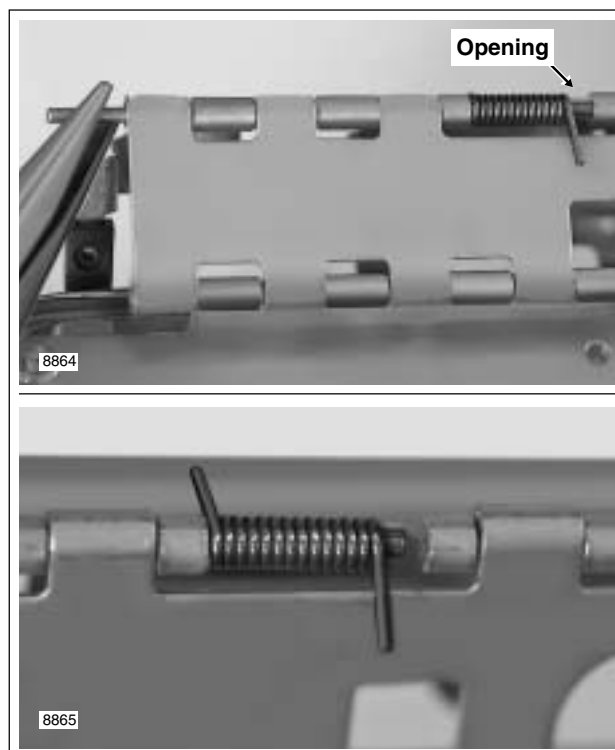

Figure 2-135. Lid Up Side Down With Latch on Far Side
- Using a needle nose pliers, grasp pin through opening just outboard of the spring and push toward the crimped link side. Work pin in this manner until end can be seen exiting crimped link. See upper frame of Figure 2-135. If necessary, pry crimped link outward a little more to achieve the desired result.
- Grasping end with needle nose pliers, slowly pull pin from links until spring can be slid off opposite end. Only pull pin as far as necessary to remove spring. See lower frame of Figure 2-135.
- Slide **new** spring onto end of pin. Orient spring as shown in lower frame of Figure 2-135.